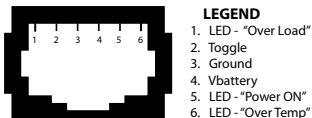

Fig. 2 Remote Control RC-15A - Pinout of Modular Jack RJ-12 / RJ-25
The pinout of the RJ-12 / RJ-25 Modular Jack (5) at the back of the unit is given at Fig. 2 below:
1. As shown in Figure 2